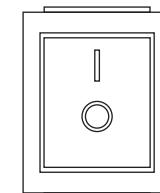

Figure 16
- ▶ While charging, turn on the power switch on the battery box of the electric wheelchair and turn off the controller power button. Note: the power switch on the battery box is turned off when delivered. Make sure to turn on the power switch while charging. The switch is located on the back of the right battery box: "I": ON and "O": OFF, see Figure 16.
- Turn on the battery switch on the battery box and press "I" to switch it into normal operating condition, see Figure 16.